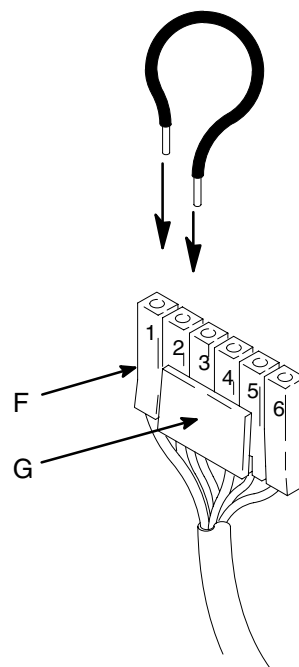

Fig. 1
4. Fig. 5. Remove four screws (60), pressure control cover (49), four screws (108), control panel (67) and housing (58). Fig. 1. Press tab (G) and disconnect motor connector (F).
1. Fig. 1. Connect motor leads (positions 1 and 2) together with test lead. Turn motor fan by hand at about two revolutions per second.